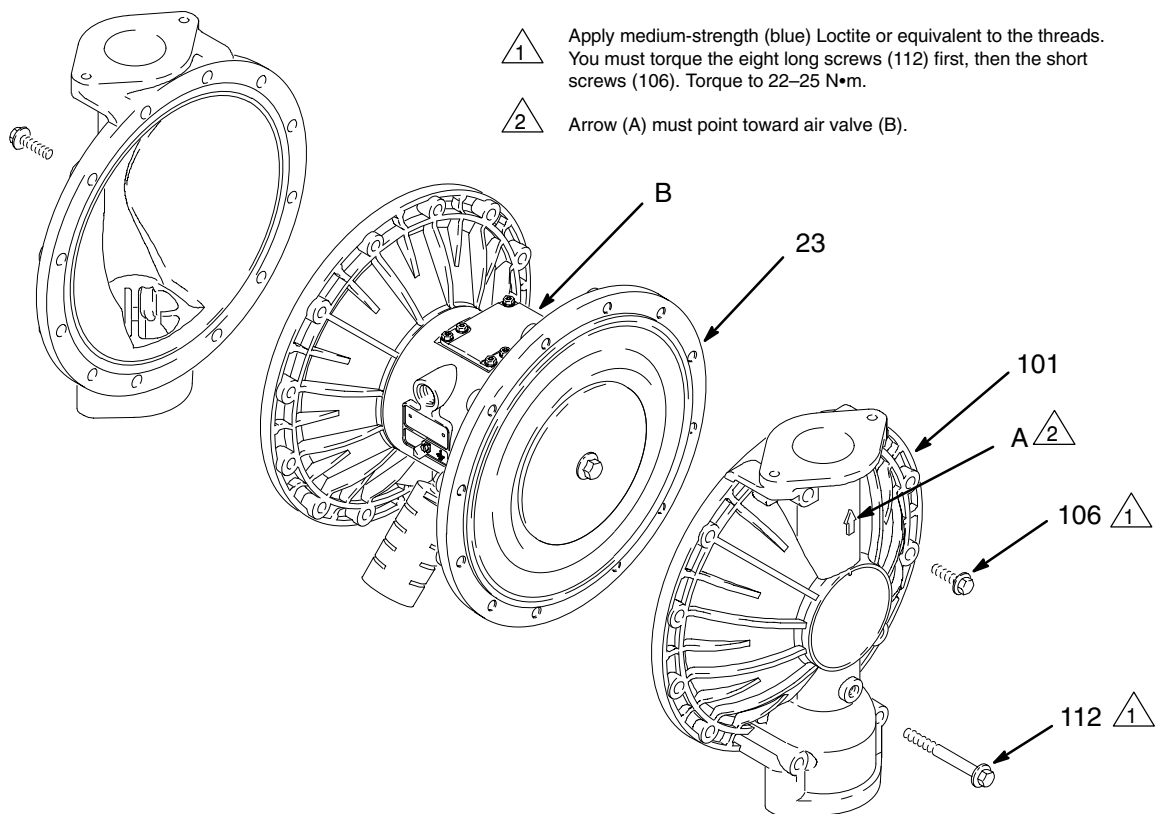

Fig. 11
3. Using 10 and 13 mm socket wrenches, remove the screws (106 and 112) holding the fluid covers (101) to the air covers (23). Pull the fluid covers (101) off the pump. See Fig. 11.
- b. Install the fluid side diaphragm plate (105) on the bolt so the rounded side faces in, toward the diaphragm (401).
- c. *On PTFE Models only*, install the PTFE diaphragm (403*). Make certain the side marked AIR SIDE faces the center housing (1).
- d. Install the diaphragm (401*) on the bolt. Make certain the side marked AIR SIDE faces the center housing (1).
- e. Install the air side diaphragm plate (104) so the recessed side faces the diaphragm (401).
- f. Apply medium-strength (blue) Loctite® or equivalent to the bolt (107) threads. Screw the bolt (107) into the shaft (24) hand tight.
3. Grease the length and ends of the diaphragm shaft (24), and slide it through the housing (1).
5. Hold one shaft bolt (107) with a wrench and torque the other bolt to 27–34 N•m at 100 rpm maximum.
6. Align the fluid covers (101) and the center housing (1) so the arrows (A) on the covers face the same direction as the air valve (B). Secure the covers with the screws (106 and 112), handtight. Install the longer screws (112) in the top and bottom holes of the covers. See Fig. 11.